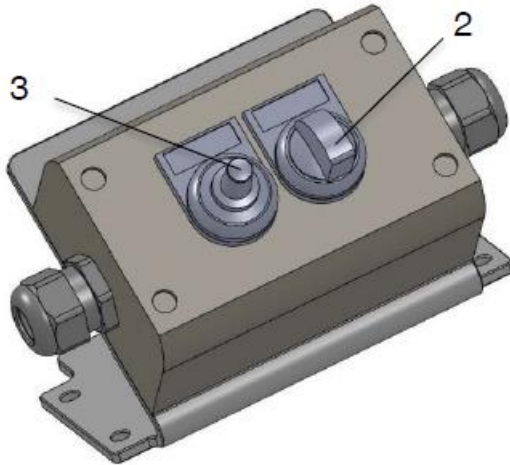

Fig. 11 Panel mounted controller for MB 20/3
You can operate the device (speed setting with item 3, switching the device on and off with item 2) entirely with the panel mounted controller (Fig. 11).